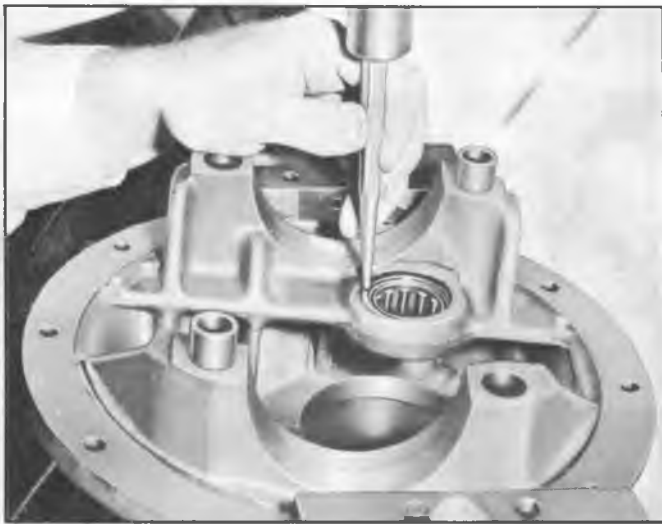

Fig. 3G—Pinion Rear Bearing Removal
9. On all axles except the 11,000 lb., the pinion rear bearing outer race and roller assembly is pressed into the carrier. Remove assembly by driving it from its seat using a soft drift or punch (fig. 3G).